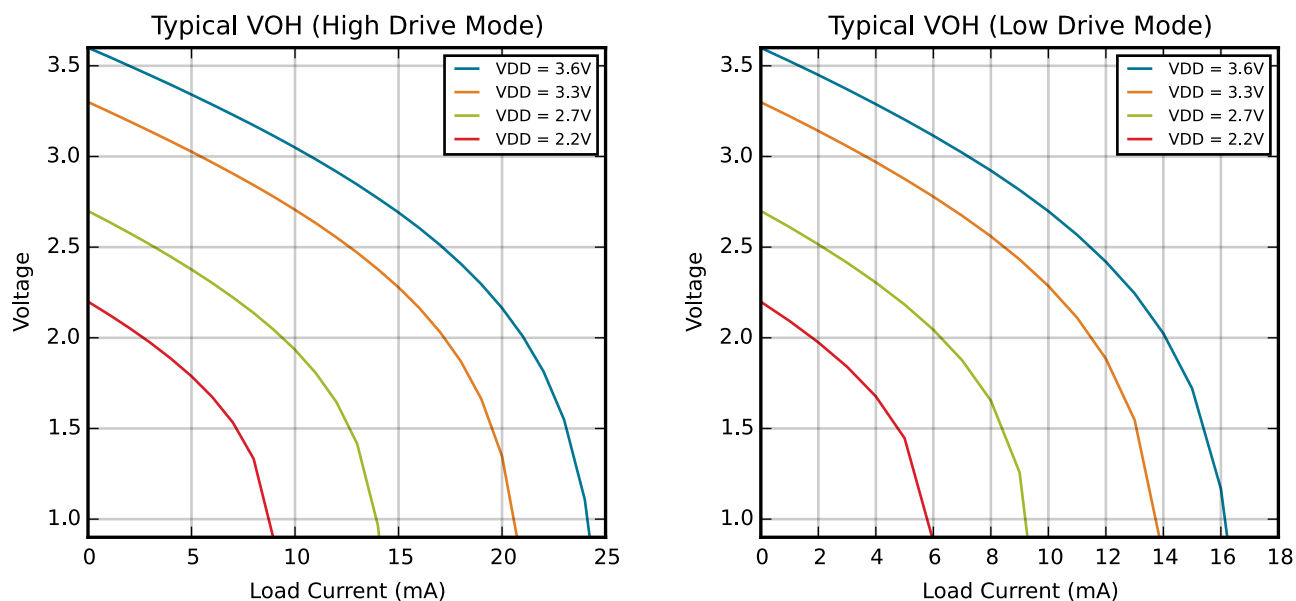
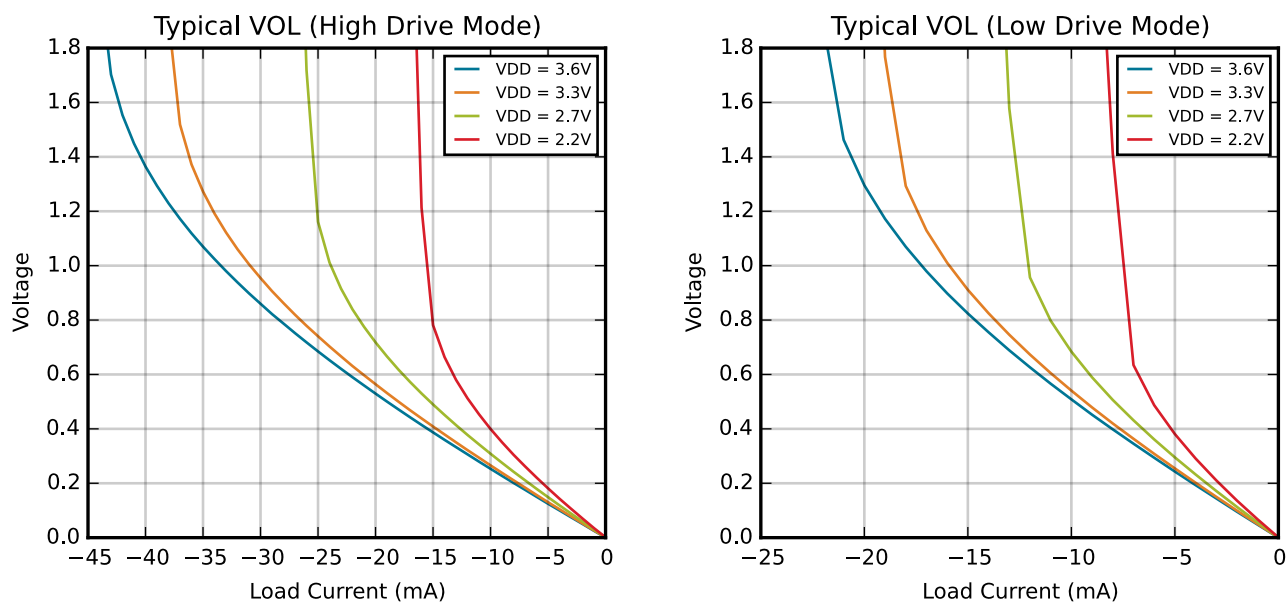

Figure 4.7. Typical V_{OH} Curves
Figure 4.8. Typical V_{OL} Curves
1. See Figure 4.7 Typical V_{OH} Curves on page 34 and Figure 4.8 Typical V_{OL} Curves on page 34 for more information.